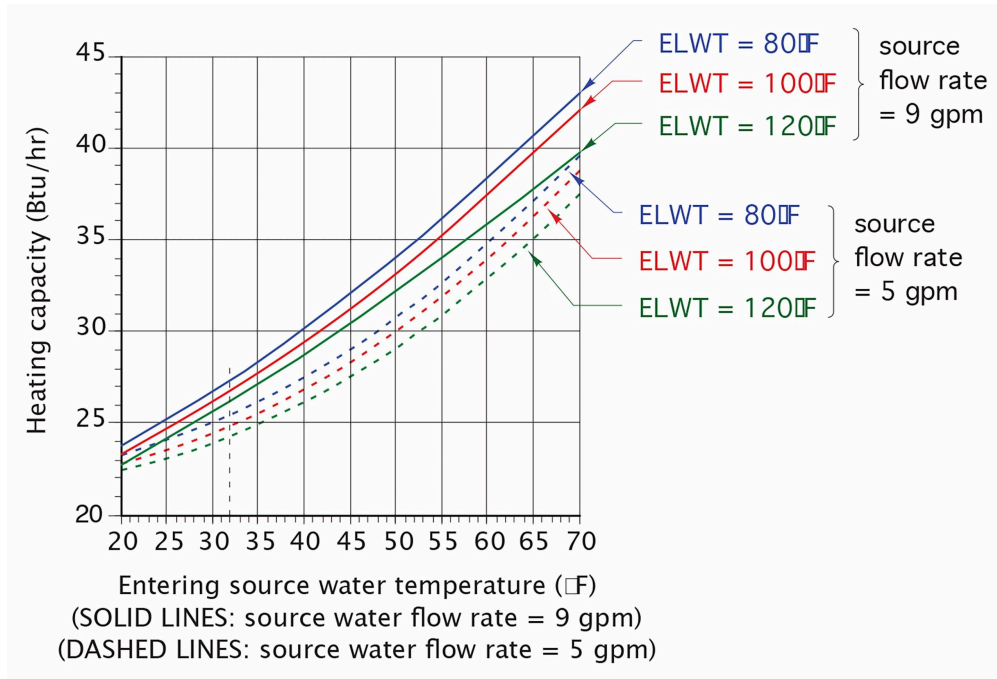

Figure 3 Heating capacity graph
- Figure 3 Air-to-air heat pump in heating mode © Caleffi Hydronic Solutions. Used with permission.
The graph shown below as Figure 3 illustrates these statements of summary.